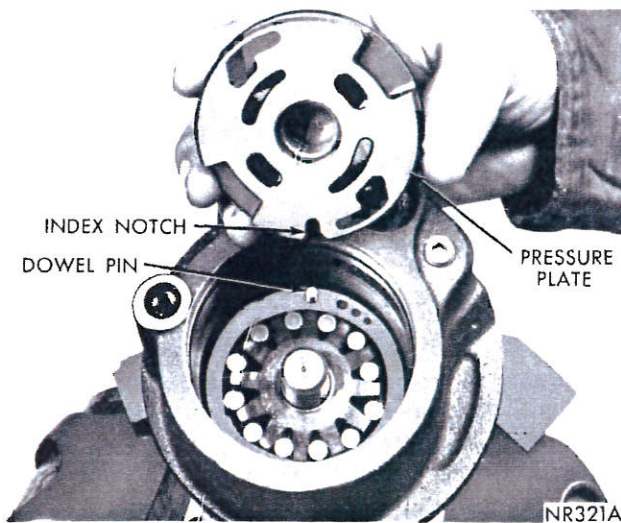

Fig. 31—Installing Pressure Plate
(11) Install new "O" ring on pressure plate, lubricate with power steering fluid and carefully position in pump bore. Before seating plate in pump bore, align index notch in plate with dowel pin and oil passage slot in plate with number drill. Seat plate on cam ring using a clean 1-1/8 inch socket and plastic hammer (Figs. 31 and 32). Remove drill. Inspect pressure plate at both oil passage slots to insure that plate is